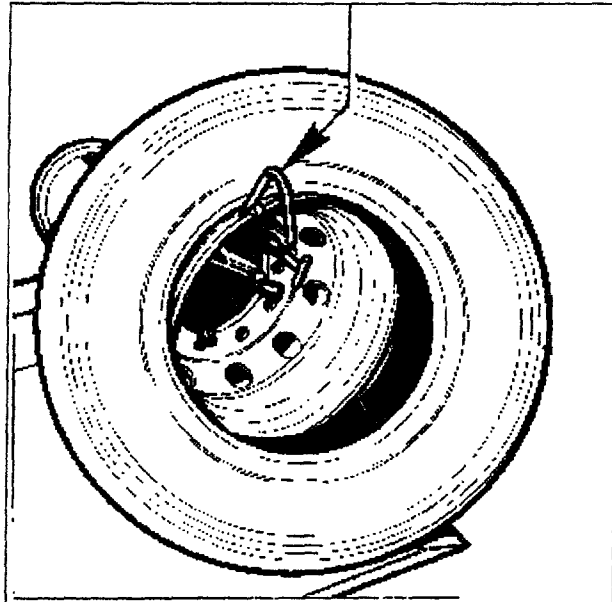

Fig.25
2. Attach the mounting clamp #4009472 (Fig.25) to the outer rim flange with the valve at 11 o'clock and the clamp at 12 o'clock.